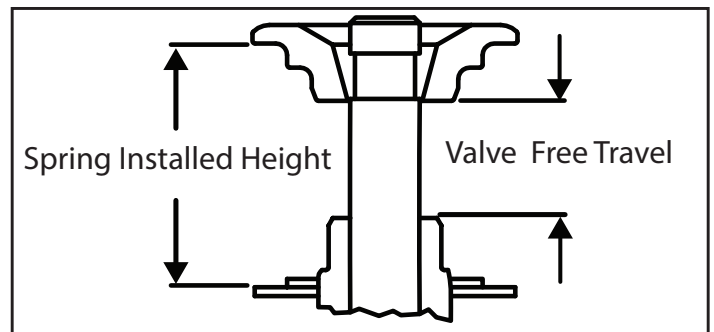

Figure 3
- ii. Pull the top collar tightly against keepers to seat them in top collar. Measure the distance between the top of the valve guide and the bottom of the top collar. This distance is the valve free travel and must be .060" more than the valve lift of the camshaft to be used. See Figure 3
- iii. Measure the distance between the top spring seating surface of the bottom collar the bottom spring seating surface of the top collar. See Figure 3. This is the spring installed height.
- ii. Measure the distance between the top of the valve guide and the bottom of the top collar. This distance must be .060" more than the valve lift of the camshaft to be used. See Figure 3
- iii. Measure the distance between the top spring seating surface of the bottom collar the bottom spring seating surface of the top collar. See Figure 3.